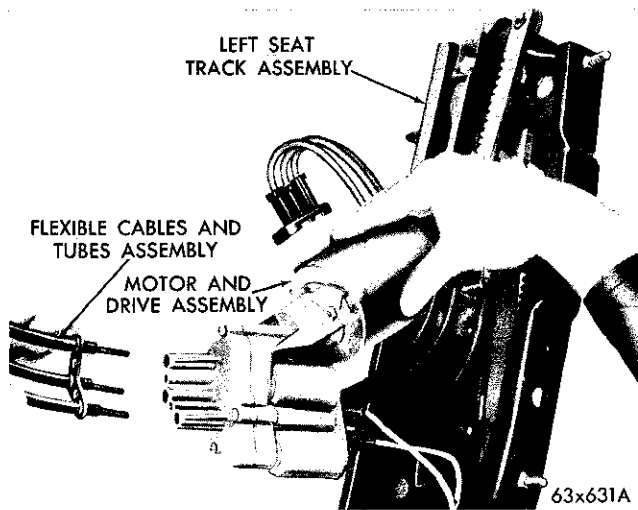

Fig. 2—Removing Cables from Drive Assembly
(4) Remove the left seat guide attaching stud nuts and remove the guide and the drive assembly (Fig. 2).